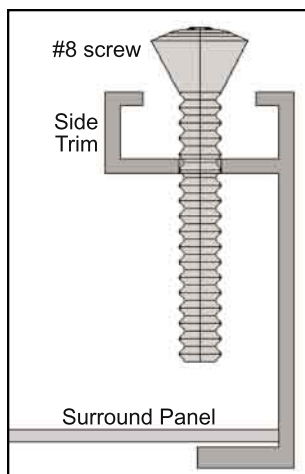

Figure 54: Screw to hold the trim against the surround.
6. On the side trims, there are holes 2" (50 mm) from either end. Use a Phillips screwdriver to place a #8 screw 1 1/4" long in each hole and tighten (refer to Figure 54). This will keep the trim tight against the surround.